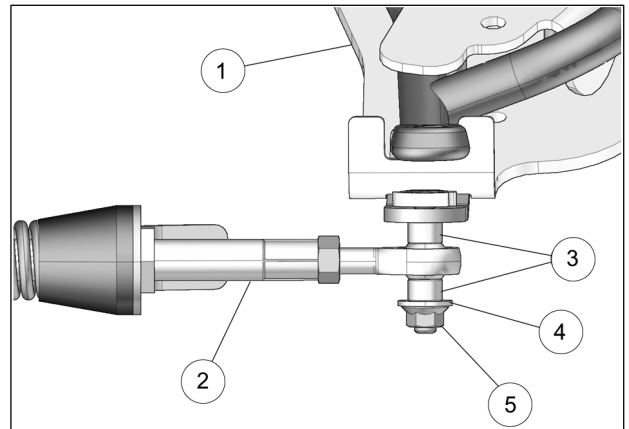

Fig. 23
13. Attach the stabilizing rod (2) to the anchor bracket (1), using the two spacer bushings (3), flat washer (4), and nut (5). Torque to 70 N•m [52 lb•ft]. Refer to Fig. 23